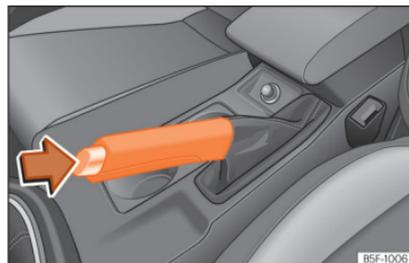

Fig. 256 Handbrake between the front seats.
- Pull the handbrake lever up firmly **>>> Fig. 256**.
- Pull the lever up slightly and press the release knob in the direction of the arrow »» Fig. 256 and guide the handbrake lever down fully »» ⚠.